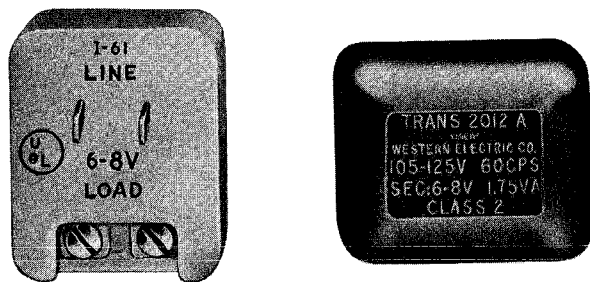

Fig. 3—2012A Transformer
3.01 The 2012A transformer (Fig. 3) supersedes the KS-16184, List 3 transformer.